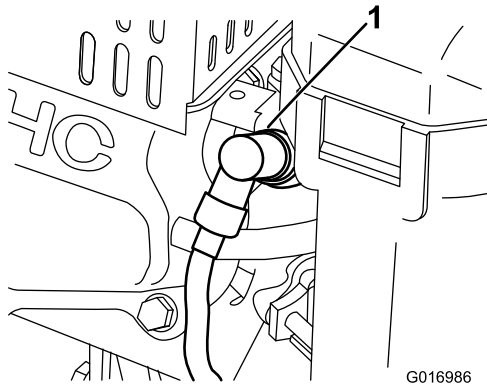

Figure 27
1. Pull the molded wire off the spark plug (Figure 27).